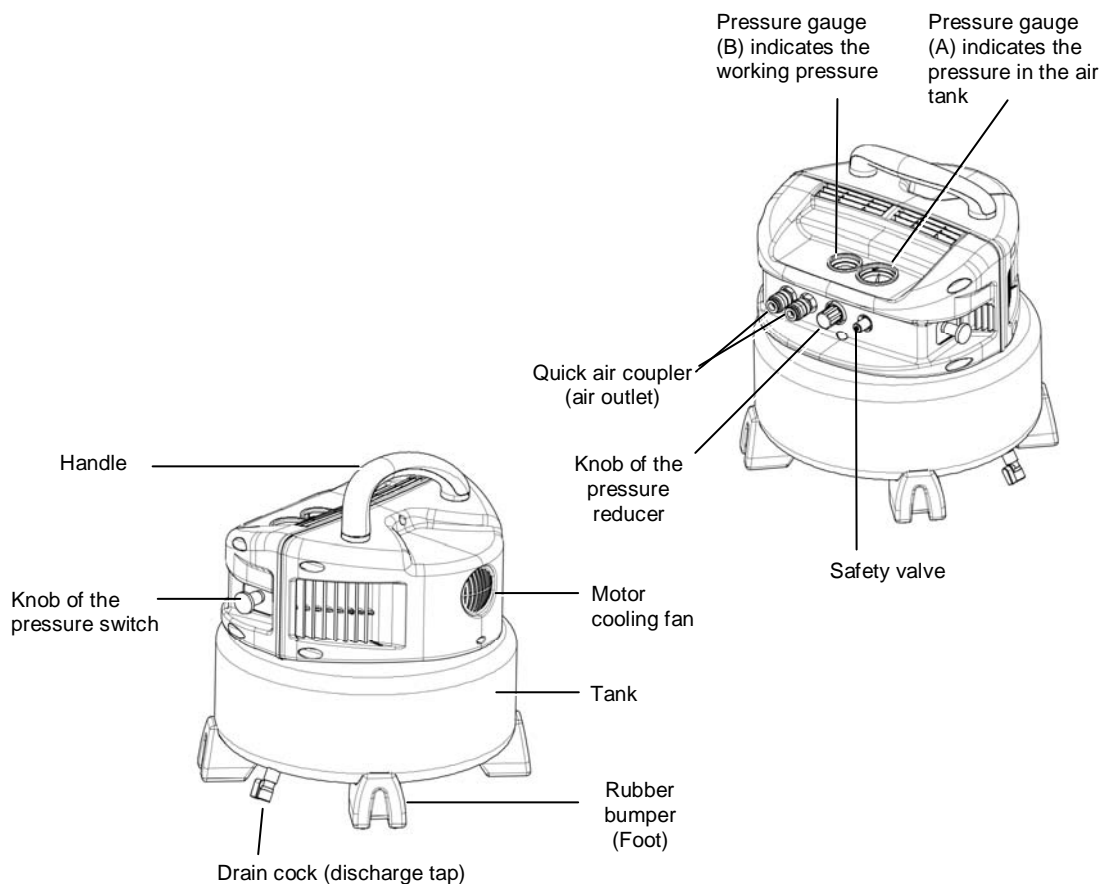
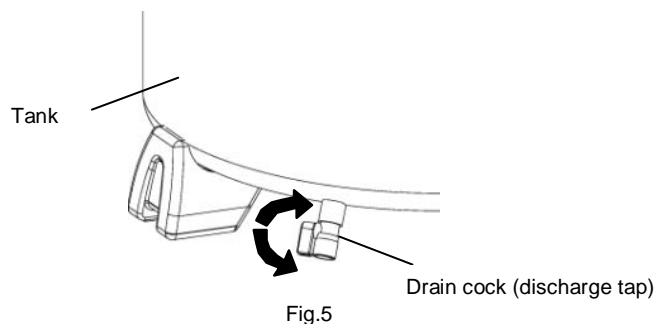

Fig. 1
Fig.5
NOTE: When operating or storing the compressor, set 4 rubber bumpers downward on the floor (Refer to Fig.1)
- (1) Push the knob of the pressure switch to "OFF" (Refer to Fig. 1 and Fig. 2).
- (2) Unplug the plug from power source.
- (3) Open the drain cock located at the lower part of the tank (Fig. 5).
Drain tank daily or after 4 hours of use. Open drain cock and tilt compressor to empty accumulated water (Refer to Fig. 5).